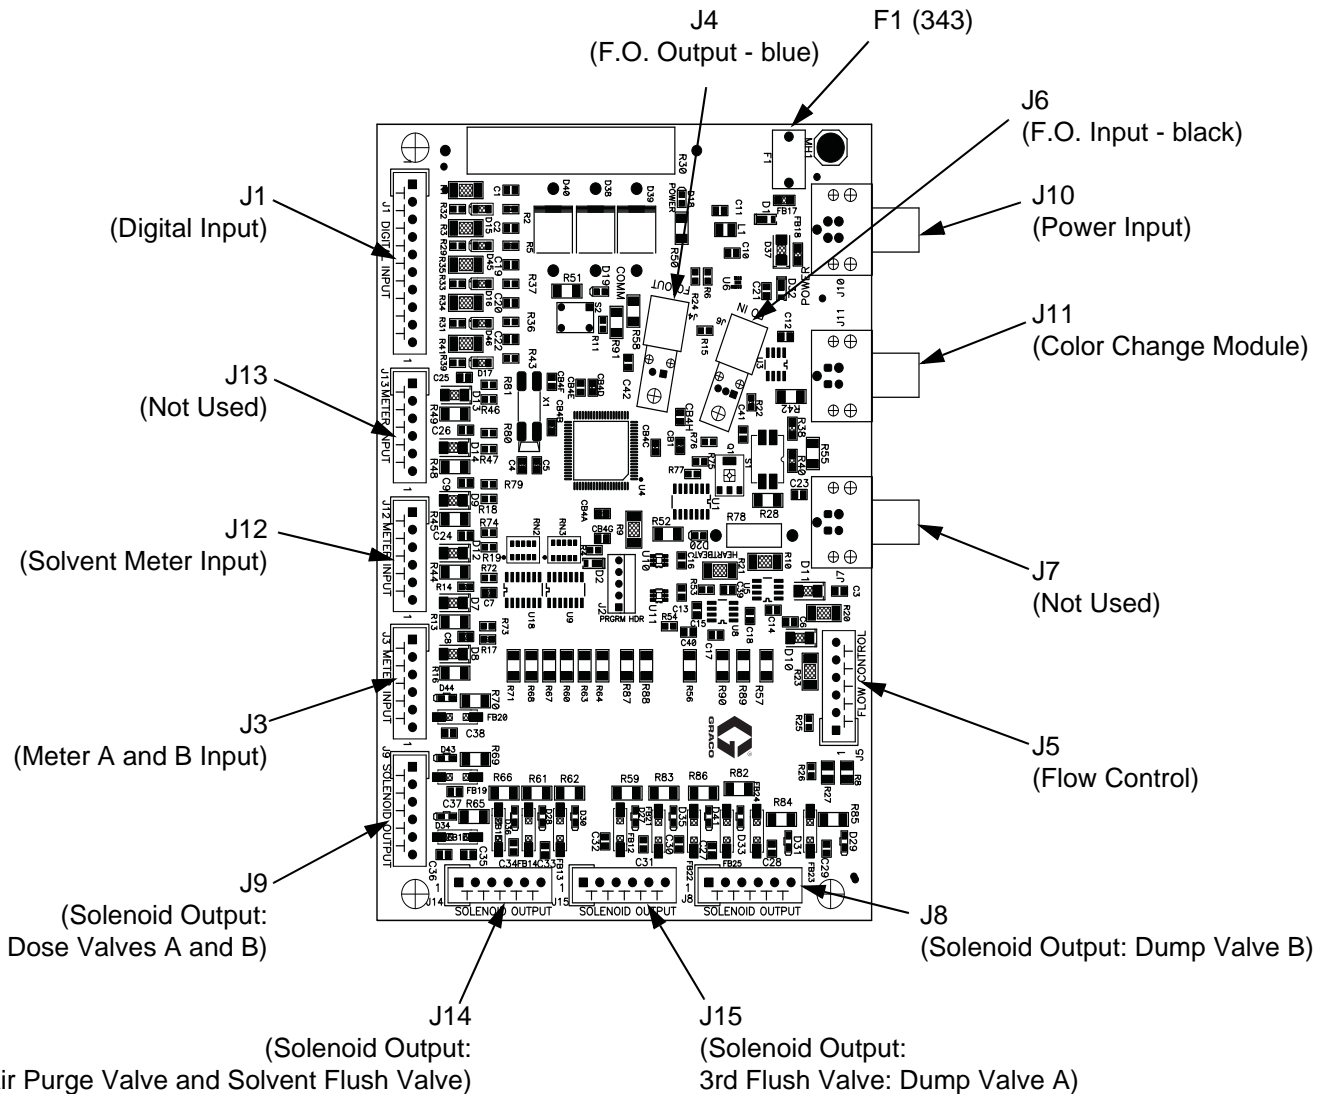

FIG. 17: 255765 Fluid Station Control Board
2. Disconnect fiber optic wires (J4, J6) and all cables (J1, J3, J5, J7, J8, J9, J10, J12, J14, J15) from control board (302). FIG. 17.
4. Install new control board (302) with 4 screws (303).
5. Connect cables to control board (302). FIG. 17. Insert fiber optic cable connectors (J4, J6) into board connectors (E), matching blue with blue, black with black, and hand-tighten connectors. Do not pinch or kink the fiber optic cables; the cables require a 2 in. (51 mm) bend radius.
2. Disconnect 2 solenoid wires from control board (302). See FIG. 17 and **System Electrical Schematic**, page 29.